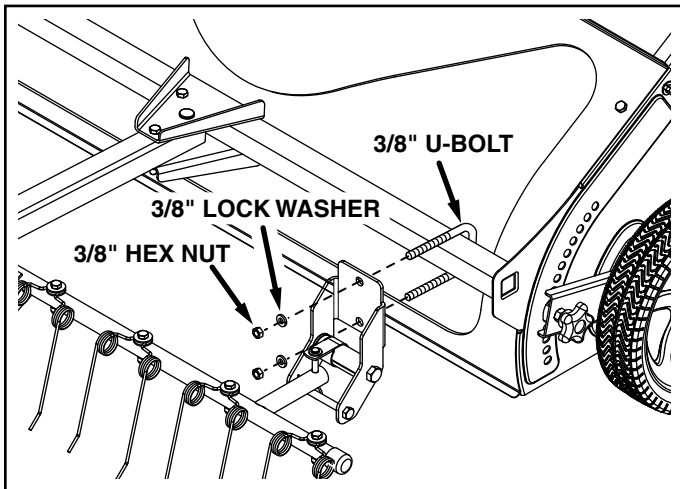

FIGURE 11
8. **Tighten** the U-bolts and nuts assembled in figure 11.